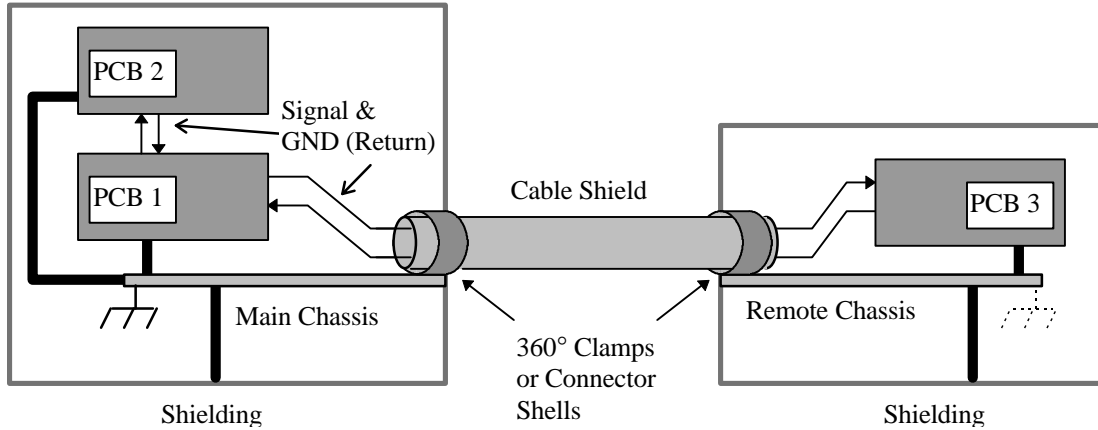

Figure 3: Chassis Grounding Scheme
- ⇒ The conductive plating should not be directly grounded to a PCB ground plane close to any high speed components. Ideally, the conductive plating should be grounded to the chassis which is then connected to the PCB ground. See Figure 3.
- ⇒ The cable shield and connector shells should be terminated to the chassis. The idea behind this is to make the chassis the common RF ground potential to which all circuits are referenced. Choose one chassis to be the MAIN reference (usually the host system chassis) and contact everything else to it through a low impedance path. In the case of the monitor chassis, this is connected back to the main chassis through the cable shielding. If possible, also terminate the monitor chassis to earth ground as well to give it a direct reference to the main chassis reference. This is illustrated in Figure 3 below.
The figure above is the same electrical configuration shown in the LCD monitor example shown in Figure 3, but is illustrated here in a notebook application to show a different arrangement of the same configuration.